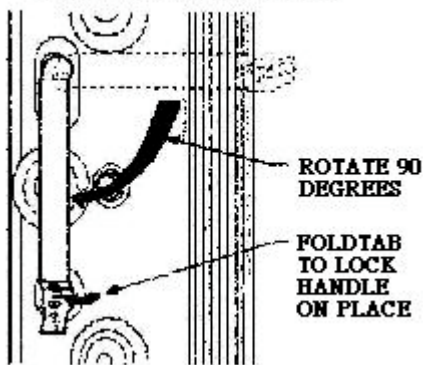

Fig.10. Attach cell handle to end of cell
1. Hold the handle sideways and insert the solid tab on the back of the handle into the rectangular slot in the cell. Turn the handle 90 degrees clockwise to align the divided tab with the square hole. See Fig. 10.